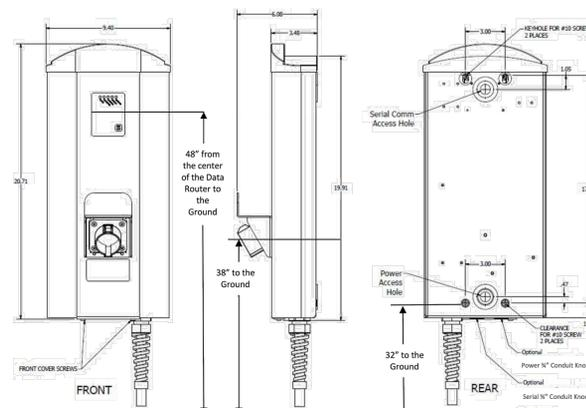

Figure 5
- Position the 3703 so that the center of the 3703's Data Router is 48 inches from the ground (Figure 5).
- Mark and drill 4 holes into the wall, duplicating the pattern shown in Figure 5. The mounting hardware/holes should be designed around #10-sized screws.
- AC wiring from the breaker panel is typically brought up into the bottom hole. If any communication to the 3703 is serial, it should also be brought up into the top hole (Figure 5).